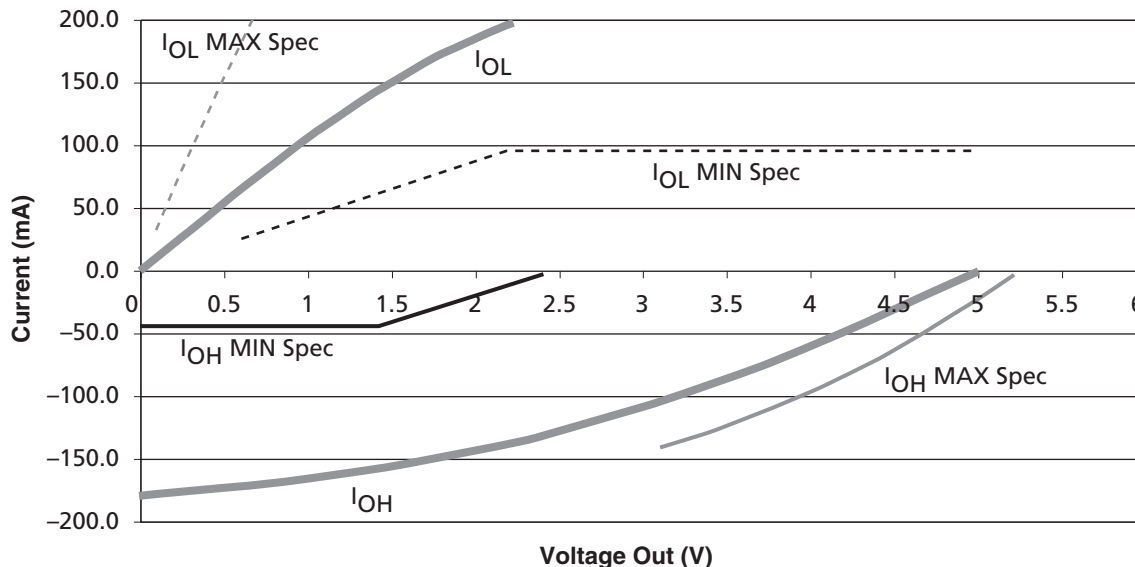

Figure 2-1 • 5 V PCI V/I Curve for SX-A Family
1. Refer to the V/I curves in Figure 2-1 on page 2-5. Switching current characteristics for REQ# and GNT# are permitted to be one half of that specified here; i.e., half size output drivers may be used on these signals. This specification does not apply to CLK and RST#, which are system outputs. “Switching Current High” specifications are not relevant to SERR#, INTA#, INTB#, INTC#, and INTD#, which are open drain outputs.
3. Maximum current requirements must be met as drivers pull beyond the last step voltage. Equations defining these maximums (A and B) are provided with the respective diagrams in Figure 2-1 on page 2-5. The equation defined maximum should be met by design. In order to facilitate component testing, a maximum current test point is defined for each side of the output driver.
Figure 2-1 shows the 5 V PCI V/I curve and the minimum and maximum PCI drive characteristics of the SX-A family.